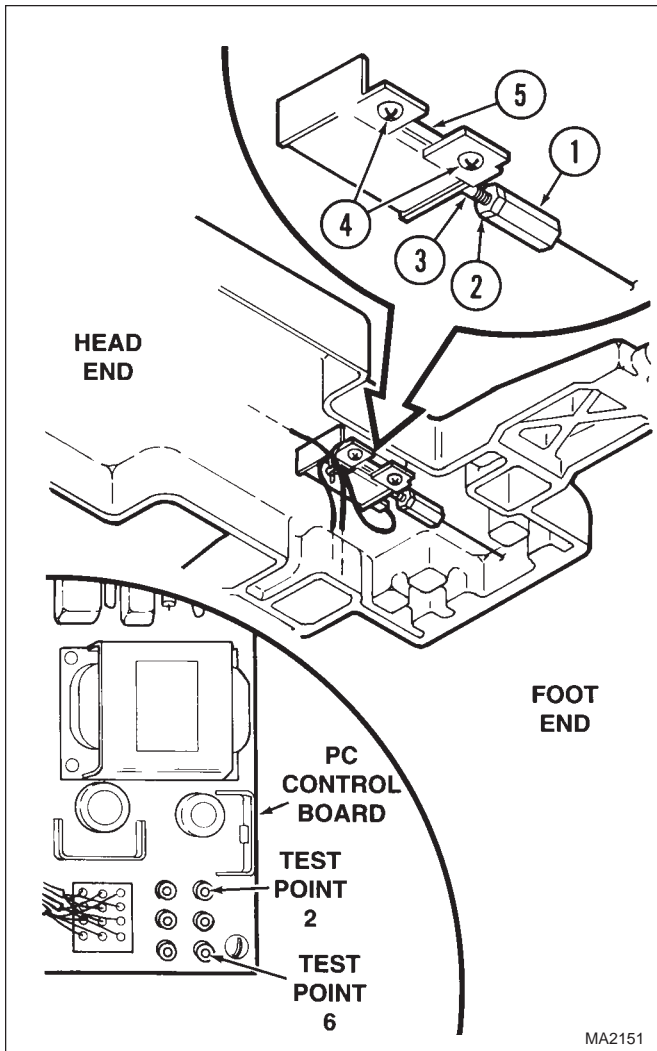

Figure 4-25. Foot Transducer Adjustment
- (1) Remove electrical cover (Refer to para 4-4).
- (2) Plug the positive probe of the multimeter into Test Point 2 and the negative probe of the multimeter into Test Point 6 of PC control board. See Figure 4-25.
- (4) While pressing the Emergency COMPUTER CONTROL OVERRIDE SWITCH, press the FOOT UP button until the foot function reaches the end of its travel.
- (5) While holding cable/turnbuckle assembly (1, Figure 4-25), loosen nut (2).